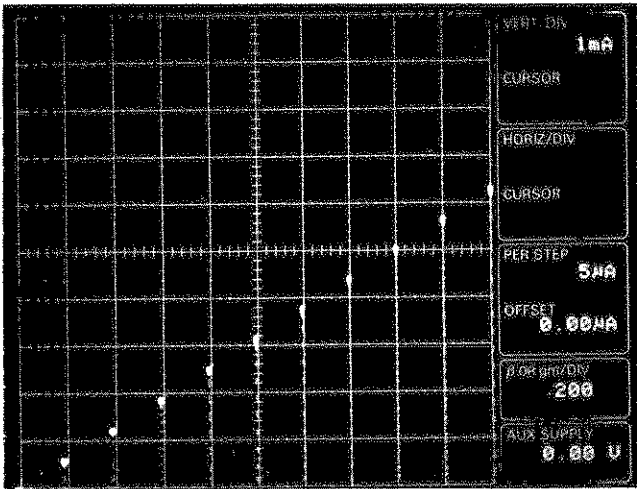

Figure 3-11. IC vs. IB, IB @ 5 uA per division.
46. Set the VERTICAL control to 1 mA and the HORIZONTAL control to STEP GEN. Note the display of collector current vs. base-current, one step per horizontal division (see Figure 3-11). Set the HORIZONTAL control to 1 V collector.